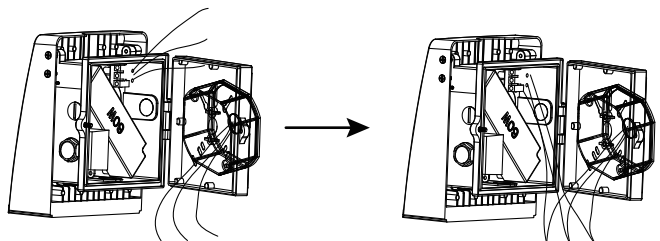

Figure 3
3. Pull mains power line through the back cover into fixture, fix the wall pack onto the junction box with screws. Connect wires with insulation measures. (see figure 3)